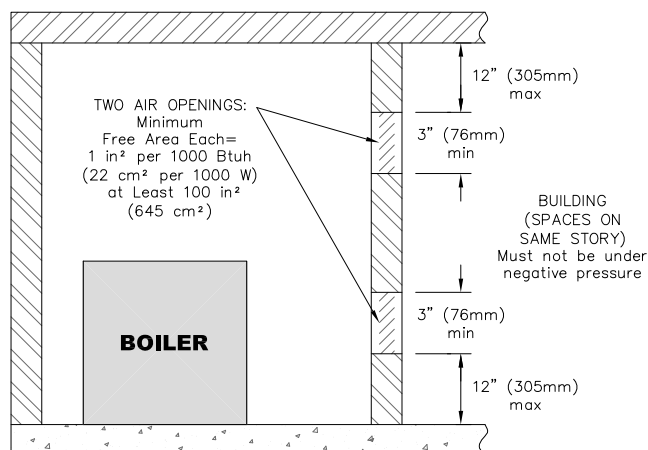

Figure 1.2: Air Openings – All Air from Indoors on the Same Floor
- a. **Combining Spaces on the Same Floor:** Provide two permanent openings communicating with additional spaces that have a minimum free area of 1 in² per 1000 Btu/hr (22 cm² per 1000 W) of the total input rating of all gas fired equipment but not less than 100 in² (645 cm²). One opening is to begin within 12 inches (305 mm) from the top of the space and the other is to begin within 12 inches (305 mm) from the floor. The minimum dimension of either of these openings shall be 3 inches (76 mm). See Figure 1.2 for an illustration of this arrangement.